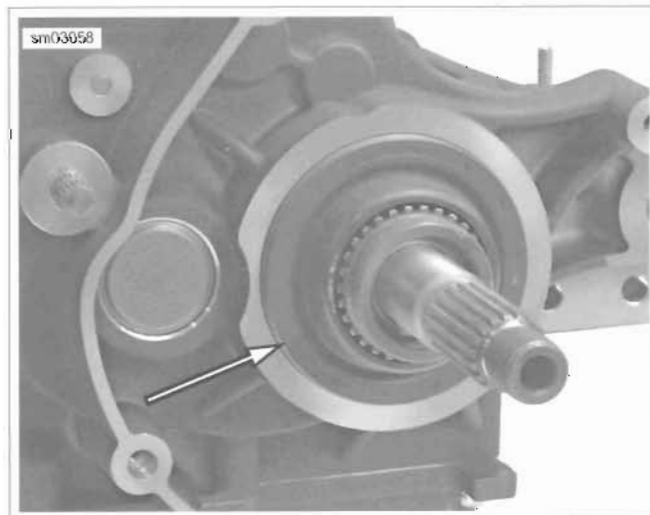

Figure 6-46. Place Main Drive Gear Seal Over Pilot
3. See Figure 6-46. Place seal over pilot with garter spring facing bearing, and position seal squarely in end of crankcase bore.